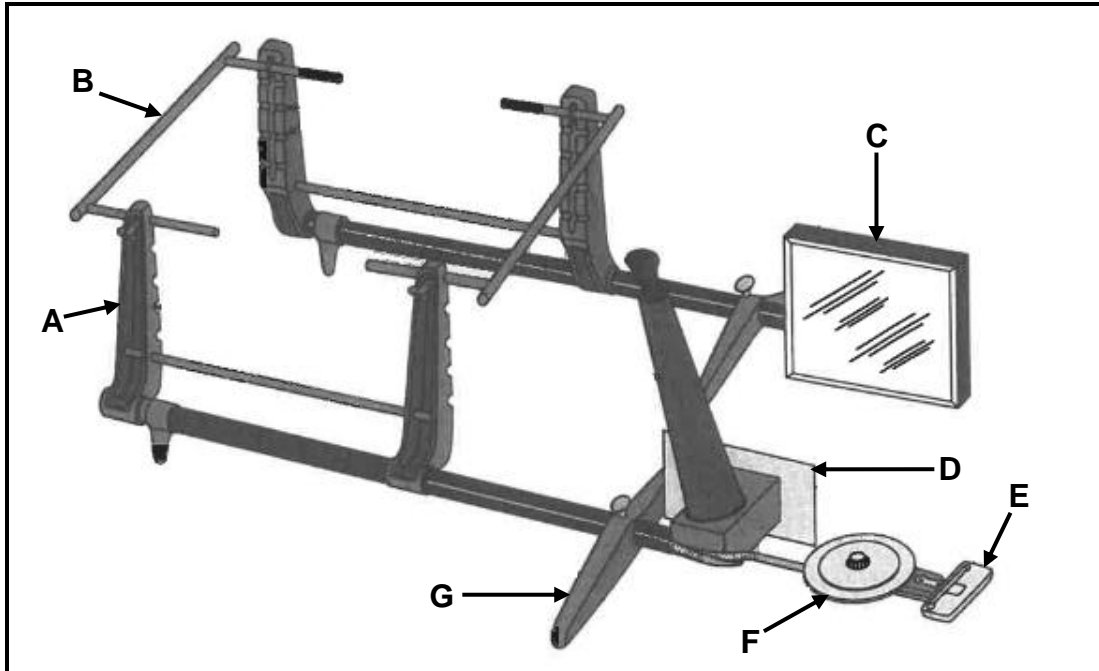

FIGURE 5.1
5.1 FIGURE 5.1 below shows a periscope optical alignment gauge. Answer the questions that follow.
- 5.1.1 Label **A–G** of the gauge shown in FIGURE 5.1. (7)
- 5.1.2 What is the function of the optical alignment gauge shown in FIGURE 5.1? (1)